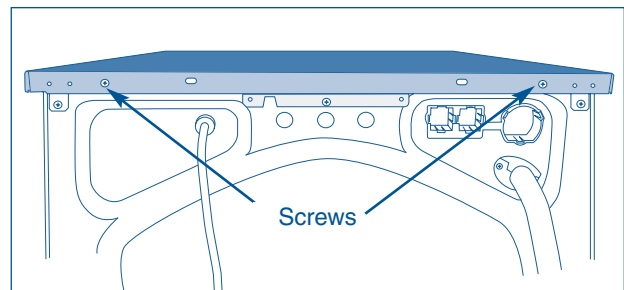

Figure 4-21.
2. Using a #2 square bit screwdriver, extract the two screws securing the top panel to the unit frame. (See Figure 4-21)